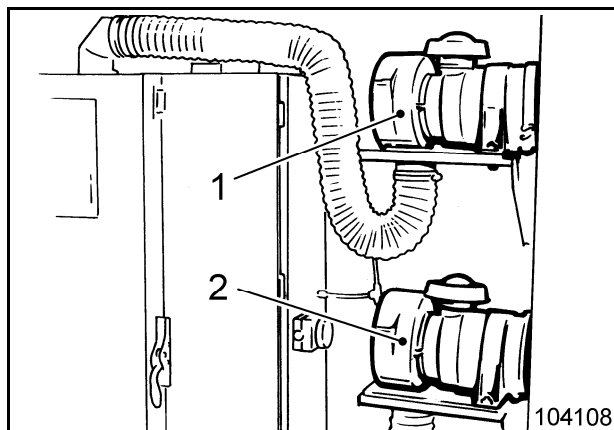

Fig. 3-25:
- For the 6.3 kV power supply (2, Fig. 3-25:),
- For the 400 V system (1, Fig. 3-25:),